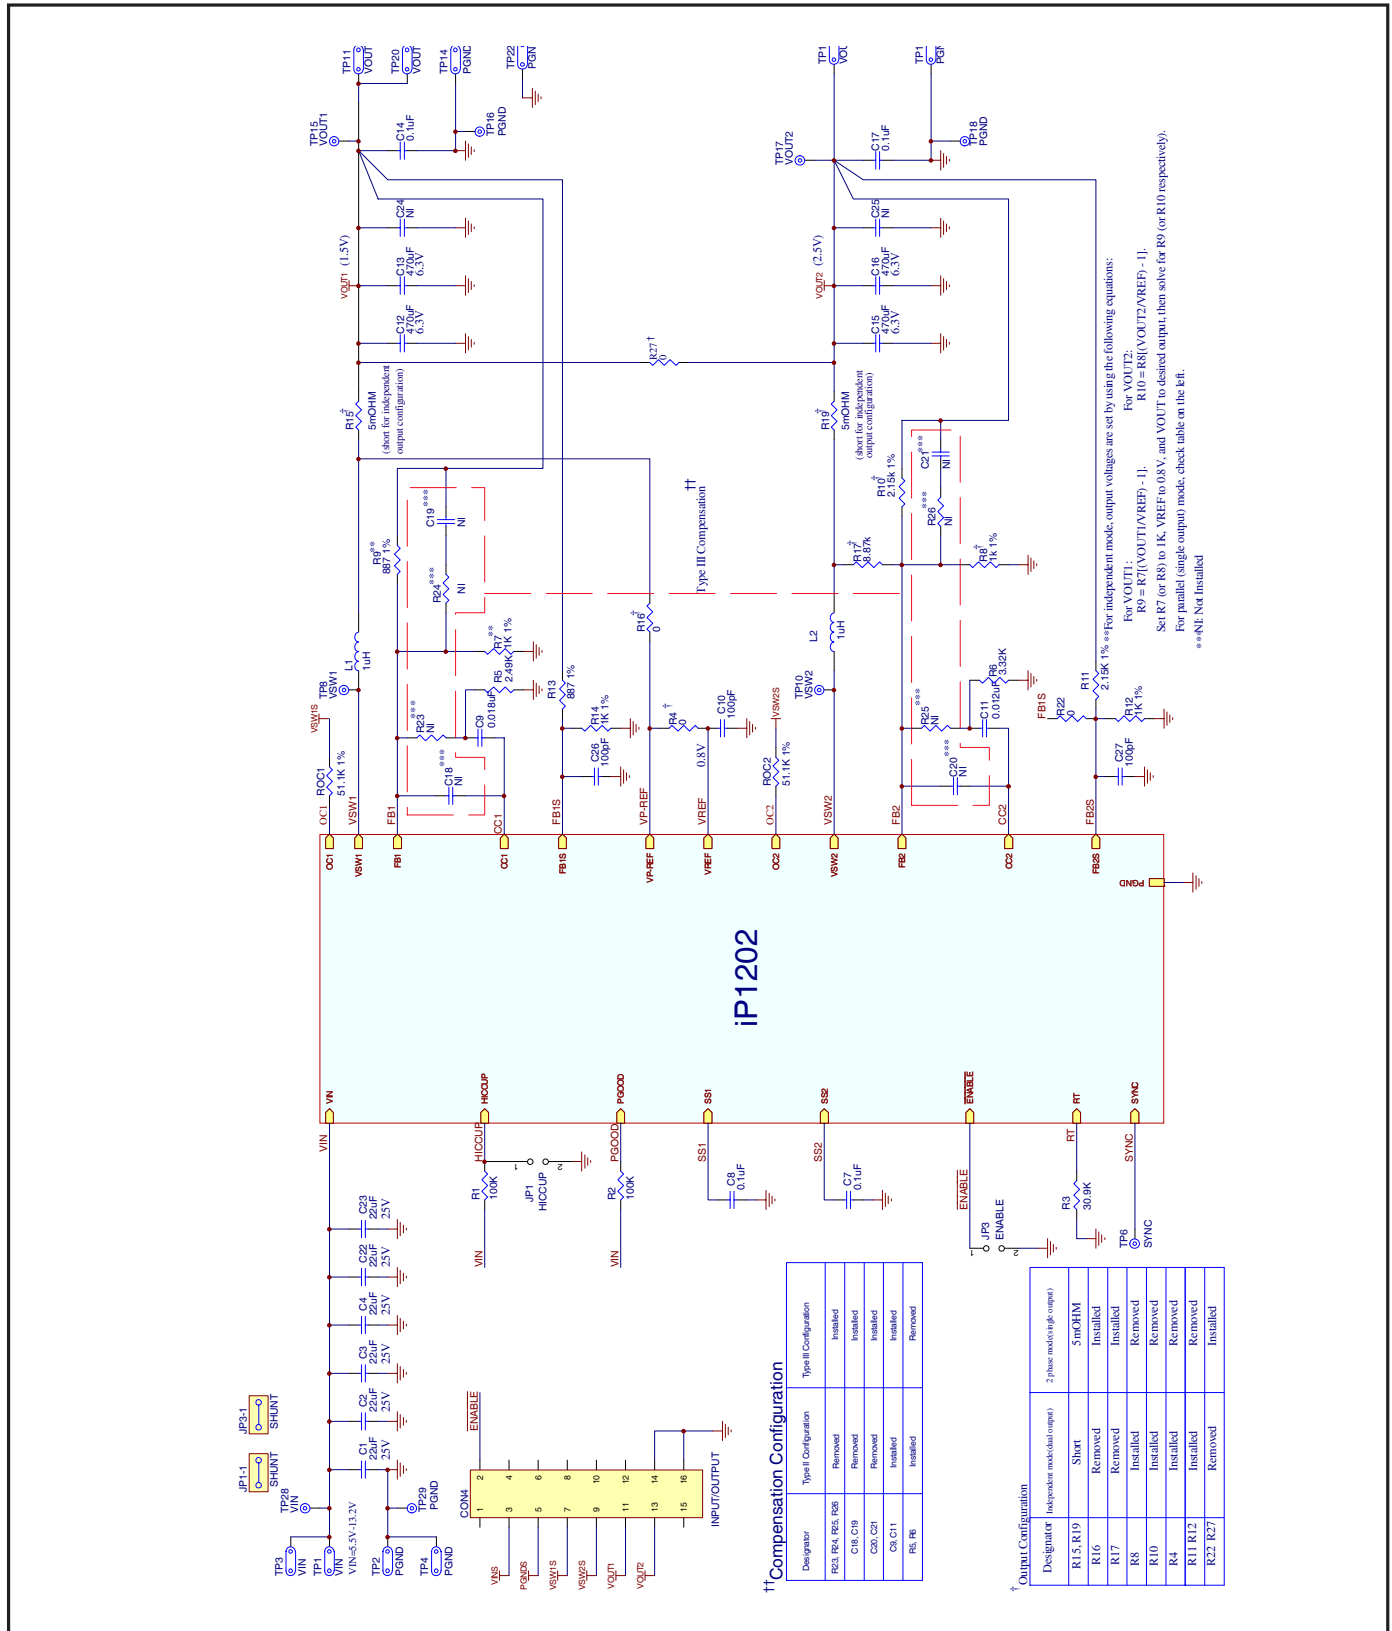

Fig. 32: Reference Design Schematic
1. Follow the layout scheme presented in Fig. 32. Make sure that the output inductors L1 and L2 are placed as close to iP1202 as possible to prevent noise propagation that can be caused by switching of power at the switching node Vsw, to sensitive circuits.